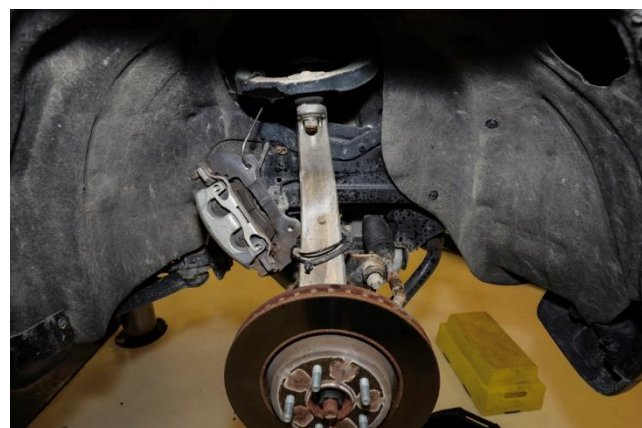

Figure 20 – Brake Caliper Assembly
41. Remove the brake caliper bracket bolts, and hang the bracket caliper assemblies out of the way (Figure 20).